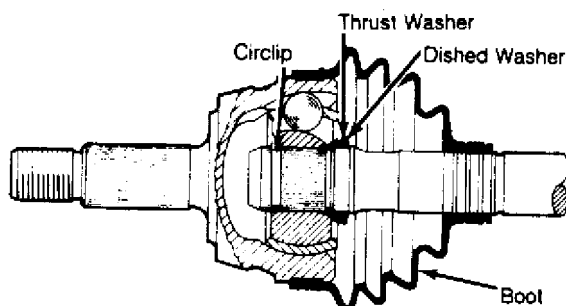

Fig. 4: Installation of Volkswagen Dished & Thrust Washers
4) Outer CV joint must be assembled with dished washer concave side facing thrust washer and convex side of thrust washer facing CV joint. See Fig. 4.